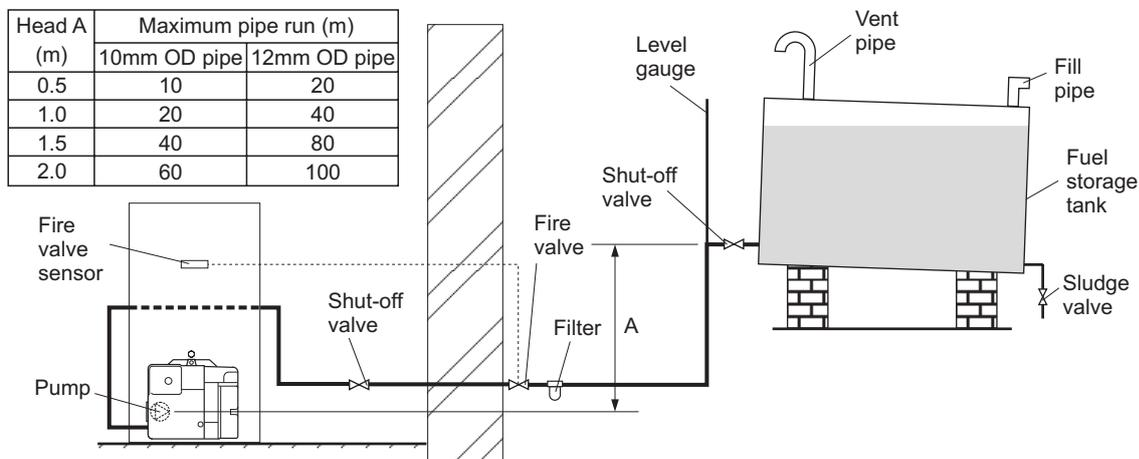

Fig. 3 - Single pipe system
- A flexible fuel hose, adaptor and $\frac{1}{4}$ " BSP isolation valve are supplied loose with the boiler for the final connection to the burner. If a two pipe system or 'Tiger Loop' type de-aerator is used, an additional flexible fuel hose (600 mm) and $\frac{3}{8}$ " to $\frac{1}{4}$ " BSP male adaptor are available to purchase from Grant Engineering (UK) Limited, Part No. RBS104.
4.4.3 Single pipe system - (See Fig. 3)